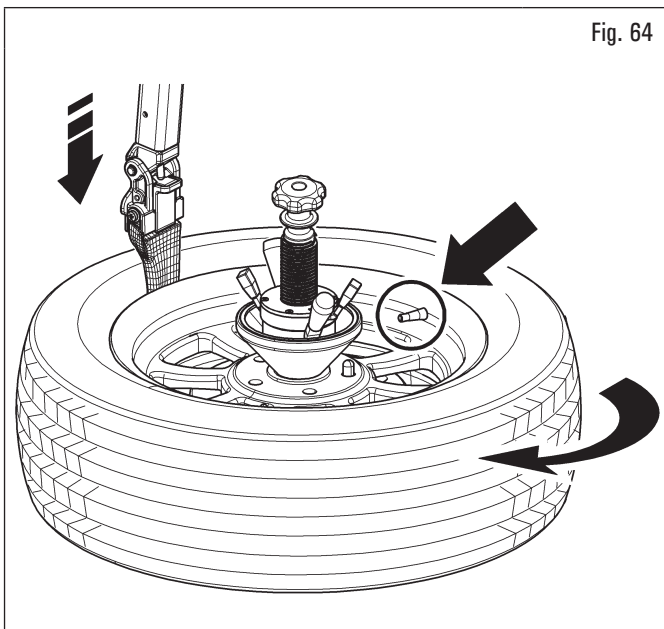

Fig. 64
2. start the rotation of the wheel (without stopping until the toolhead is inserted). When the valve is at about 3 o'clock (see Fig. 64), press the toolhead descent button (Fig. 6 ref. C (LOW)) and insert it into the tyre (see Fig. 65);